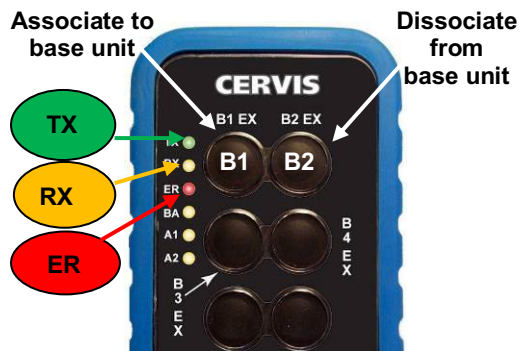

Figure 8. XX-2, 4, 6 Handheld Associate/Dissociate Buttons
3. Press and hold both the Associate button (B1) and Dissociate button (B2), see Figure 8). The RX and ER LEDs light.
6. Press and hold the Dissociate button (B2). (See Figure 8 above.) All LEDs light.